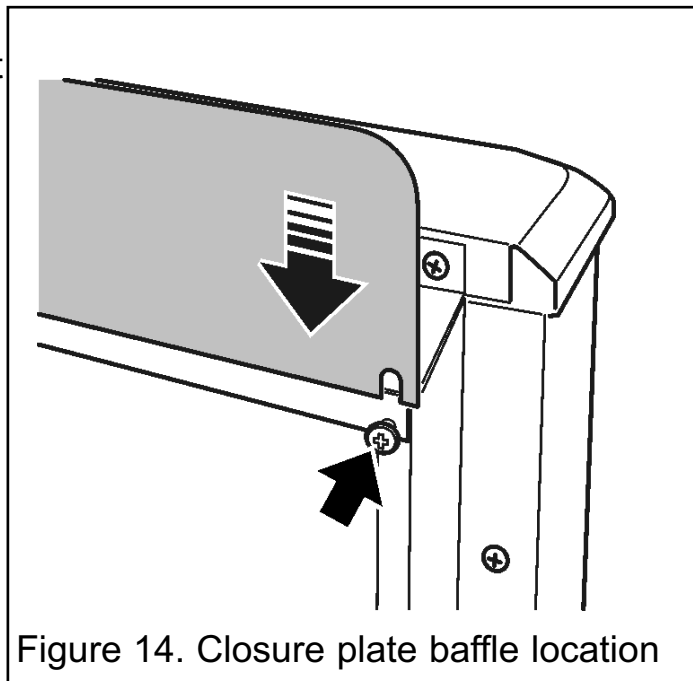

Figure 14. Closure plate baffle location
- Locate the baffle onto the screws as in figure 14. The baffle is angled and should lean towards the rear of the fire.